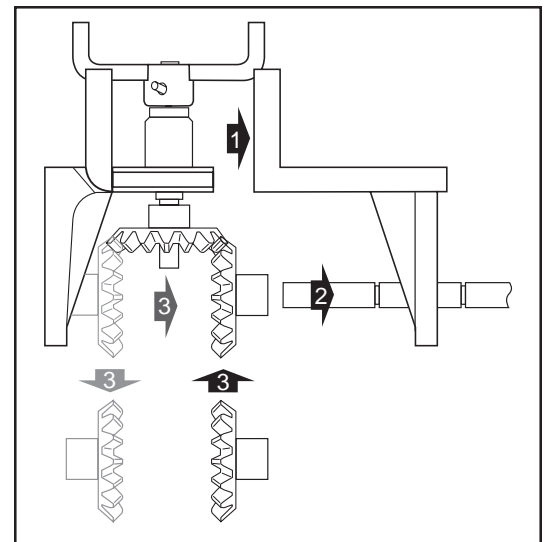
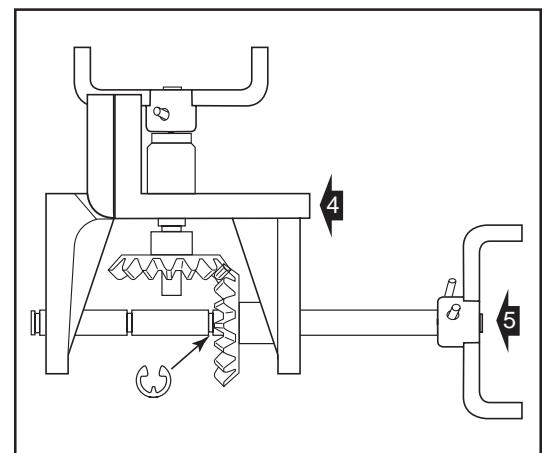

Fig. 3-11 Repositioning of Gear
Fig. 3-12 Replacing Retaining Ring
Illustration shown is 1:1 gear ratio. The factory default rotation direction of the wriggler is in a clockwise direction when looking down on the Instrument Drive from above. Should the installation of your pressure correcting or pulse output device require counter clockwise rotation of the wriggler, follow the procedure below. Before attaching the Instrument Drive, loosen the (2) socket head cap screws holding the angle bracket assembly to the inside of the Instrument Drive and remove from the Instrument Drive housing. Remove the retaining ring from the metal shaft (Fig.3-10). Slide the angle bracket to the right (Fig. 3-11 (1)) Next slide the shaft to the right (Fig. 3-11 (2)) being careful not to lose the nylon gear riding on shaft. Remove the nylon gear (Fig. 3-11 (3)). Flip gear horizontally and replace on shaft making sure the flat machined surface of the shaft mates with corresponding flat on inside of gear. Reattach retaining ring to the left of gear (Fig. 3-12). Next, slide the right side of angle bracket back to its original position ensuring its alignment with grooved surface just above the top gear (Fig. 3-12). Note: the shaft will follow in this step. Make sure it aligns properly with corresponding hole in left angle bracket. Finally, remount the angle bracket assembly into the Instrument Drive housing and install housing to CMTC.